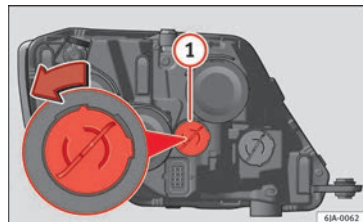

Fig. 149 Changing daytime driving light bulbs.
- Turn the bulb holder **»» Fig. 149 ①** anti-clockwise and remove it.